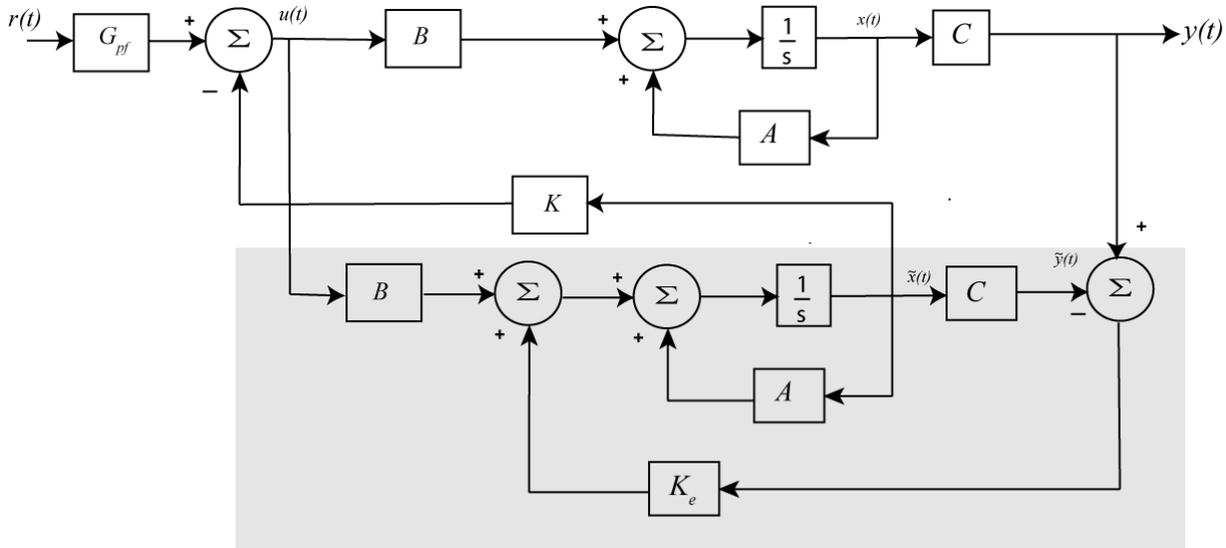

Figure 8. Full order observer state variable feedback structure.
a) Copy your program **Basic_1dof_State_Variable_Model_driver.m** to a new file **sv1_observer_driver.m**, then copy the Simulink file **Basic_1dof_State_Variable_Model.mdl** to **sv1_observer.mdl**. Modify these *new* files to implement state variable feedback using integral control. The basic integral control scheme is shown below in Figure 8.